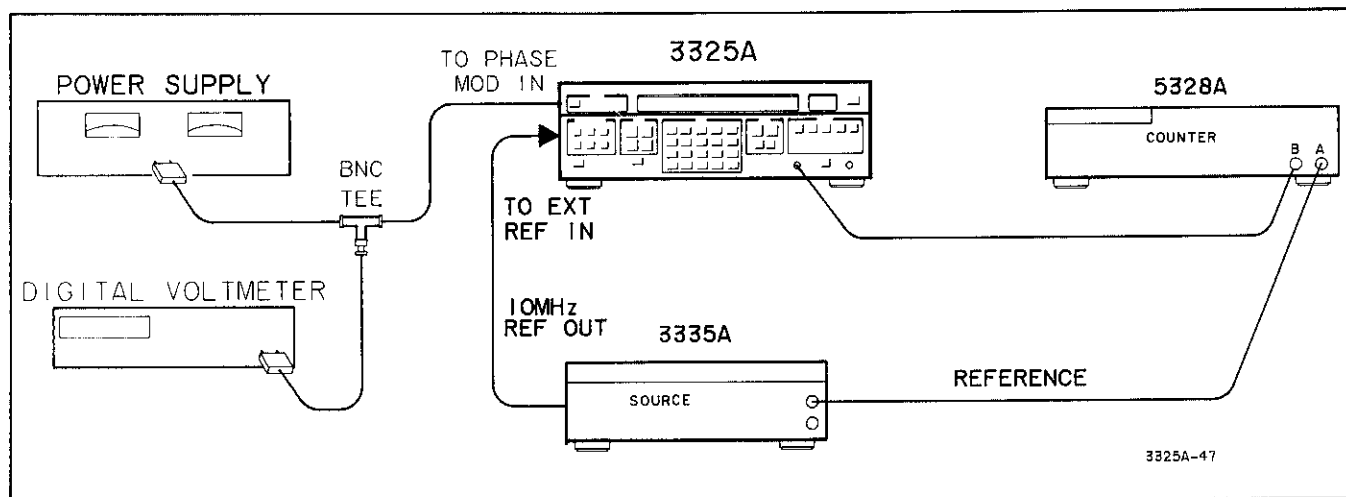

Figure 4-8. Phase Modulation Linearity.
- a. Connect the equipment as shown in Figure 4-8.